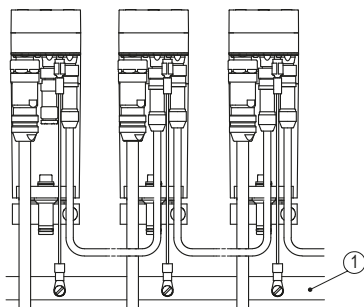

Fig. 7: Ground bar
For protection against interference, the screens of the signal lines and the power line must be connected on both sides. Potential differences cause inadmissible currents on the screen. Apply the PE connection (4) to the protective conductor potential below the connecting plugs (see Fig. 6). Use 6.3 mm flat connectors with short strands 2.5 ... 4 mm² (not in the scope of delivery). For multiple actuators we recommend connecting the earthing to a ground bar (1) (see Fig. 7).